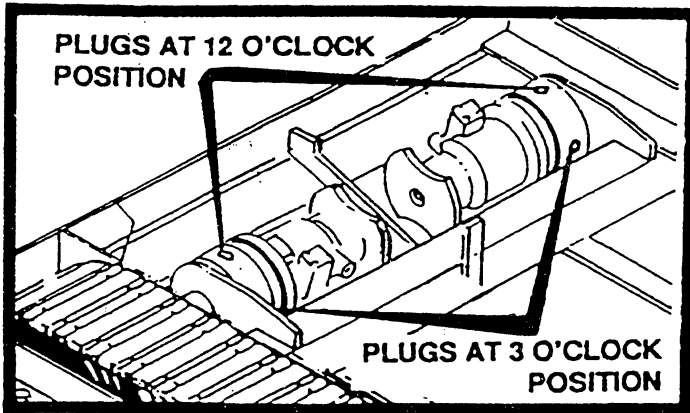

FIGURE 39
2. Check oil level in the torque hub by removing the plug at the 3 o'clock position. If oil comes out no oil is needed, insert plug and tighten. If oil does not come out, remove the plug at the 12 o'clock position and fill torque hub with 90 wt. gear oil until oil starts to appear at the other hole. Replace both plugs and repeat process to other torque hub. See figure 39.